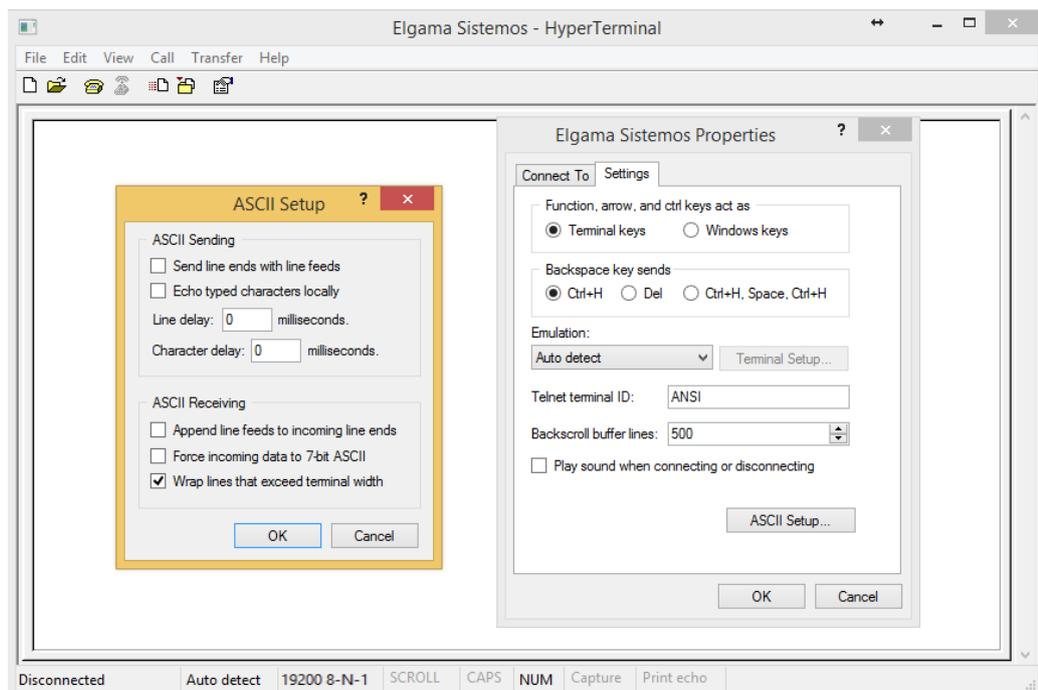

Figure 6.2-7
5. **Important.** Ensure that other settings of the connection are set as shown on figures 6.2-7;